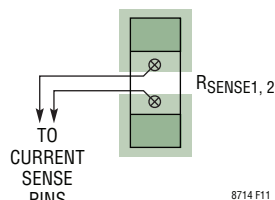

Figure 11: Suggested Routing and Connections of CSP/CSN and ISP/ISN Lines
- Route the CSP/CSN and ISP/ISN lines differentially (close together) from the chip to the current sense resistor as shown in Figure 11.